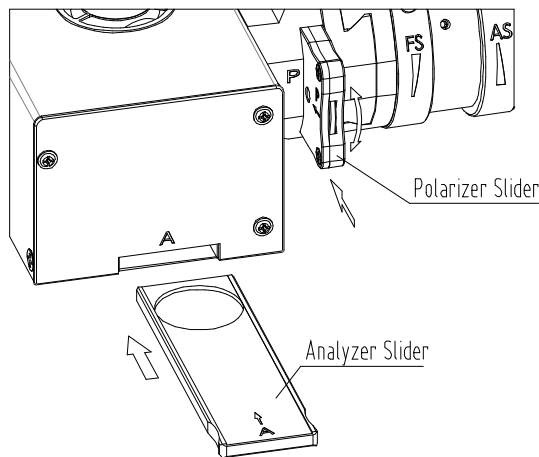

Figure-15 Putting Analyzer Into Optical Path
A. Insert analyzer slider (A) in corresponding slot, moving into light path(**Figure-15**).
- B. Insert polarizer slider (P) in corresponding slot, moving into optical path.
- D. Turn the wheel of polarizer to make the field the darkest. (**Figure-15**)